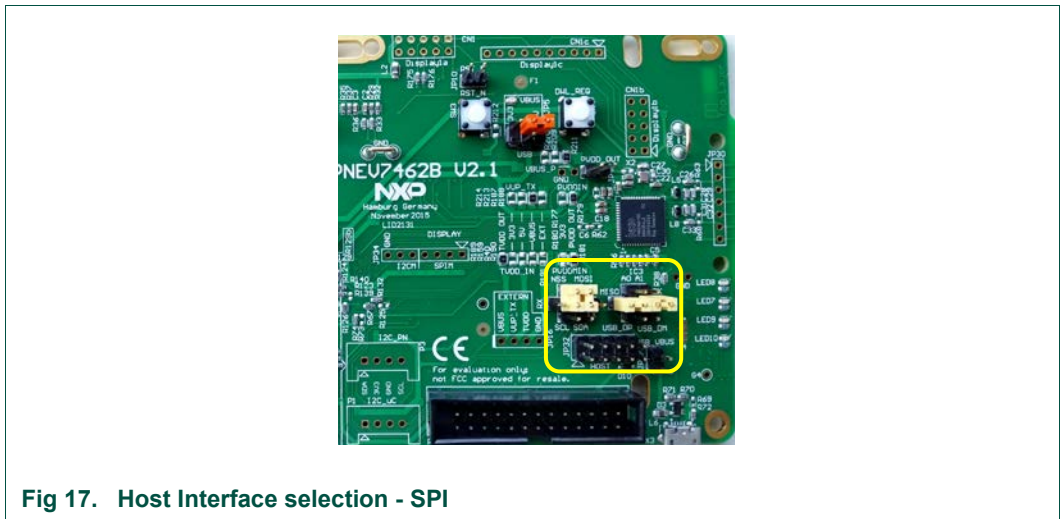

Fig 17. Host Interface selection - SPI
The yellow marked jumpers (Fig 17) need to be set for using the SPI host interface of the chip. This will connect the SPI\_MOSI of the PN7462AU to the I/O P0(18), SPI\_MISO to the I/O P0(17), SCK to the I/O P0(15), and also the NSS of the PN7462AU to the I/O P0(16) of the LPCXpresso board.